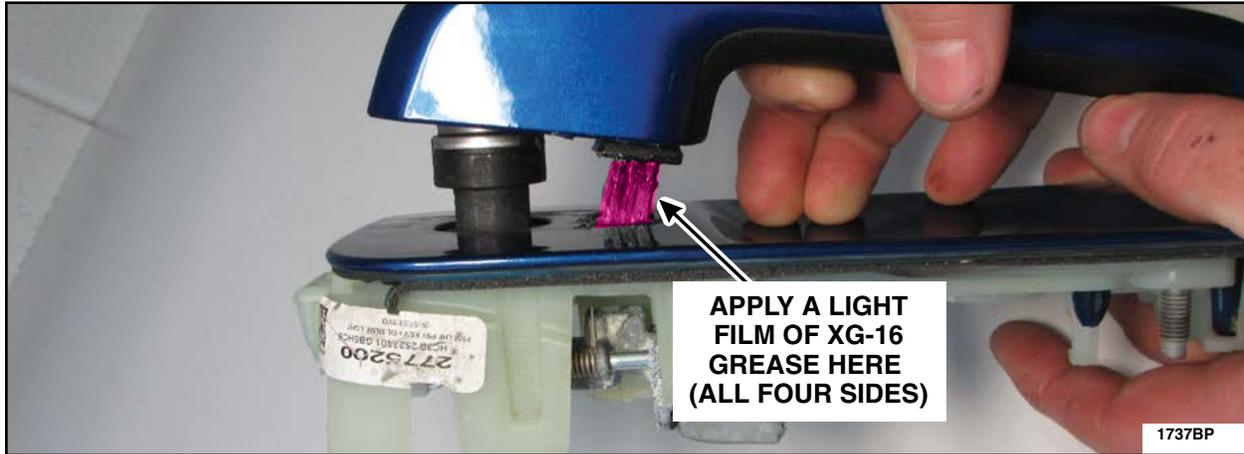

FIGURE 49
18. Using a clean shop towel and isopropyl alcohol, clean the handle plunger then using a brush apply a light film of Motorcraft® XG-16 low temperature grease to all four sides of the exterior door handle plunger and to the mechanisms in the areas shown in Figures 49 and 50.